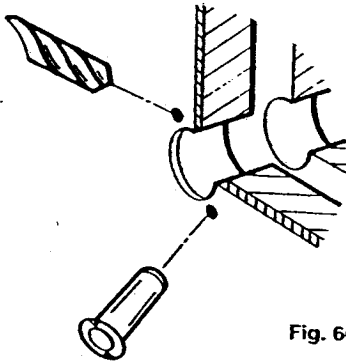

Fig. 66
8. Drill and plug the wall in these positions (Fig. 66).